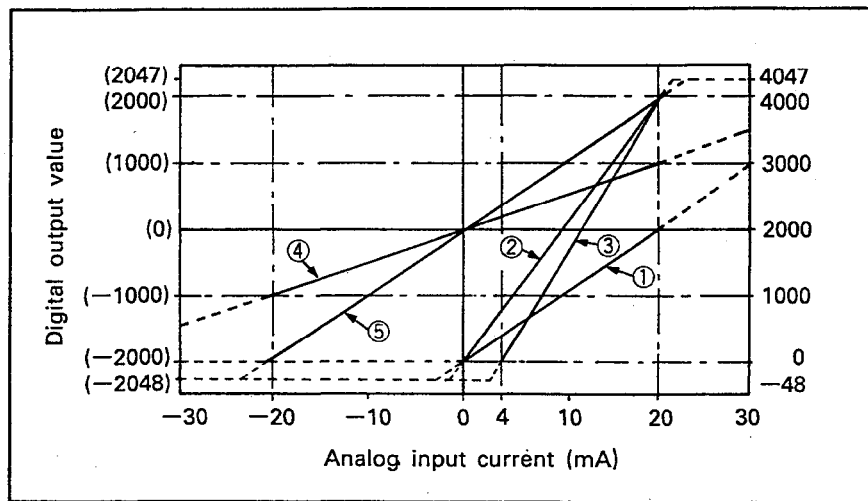

Fig. 3.2 I/O Characteristics
- b) When the input current is in the range from -20 to 0 to +20mA, the maximum resolution and overall accuracy are within the quoted range of performance specifications. However, if this range is exceeded (dotted line in Fig. 3.2), the resolution and accuracy will be impaired.